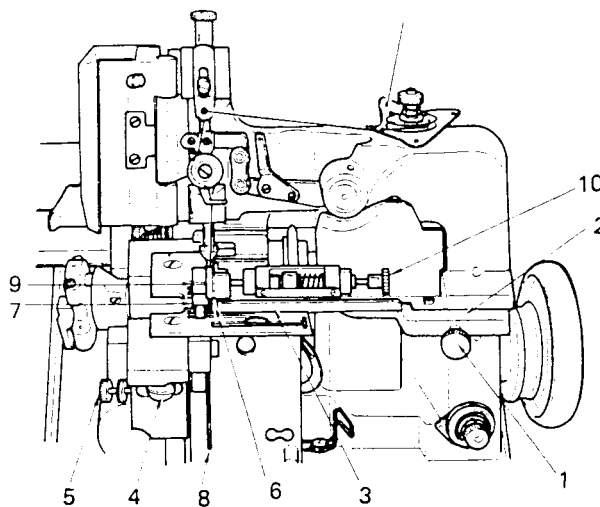

Fig. 15
15. TO ADJUST THE STITCH WIDTH (See Fig. 15)
1. Loosen the thumb screw (1) holding the knife guard bracket (2) (see Fig. 15) and slide knife (2) with knife guard (3) to the right.
2. Loosen set screw (4) and turn adjusting screw (5) with fingers to move the stationary knife holder to the left or right as required and tighten the set screw (4). When a wider overedge seam is desired, move the holder to the right and when a narrower seam is desired, move the holder to the left.
3. Move knife guard bracket (2) to the left until the knife guard (3) is lightly in contact with movable knife (6) and tighten thumb screw (1).
4. Loosen screw (7) holding the chaining-off finger on the presser foot and adjust the finger in relation with the cutting width by moving it either to right or left and tighten screw (7).